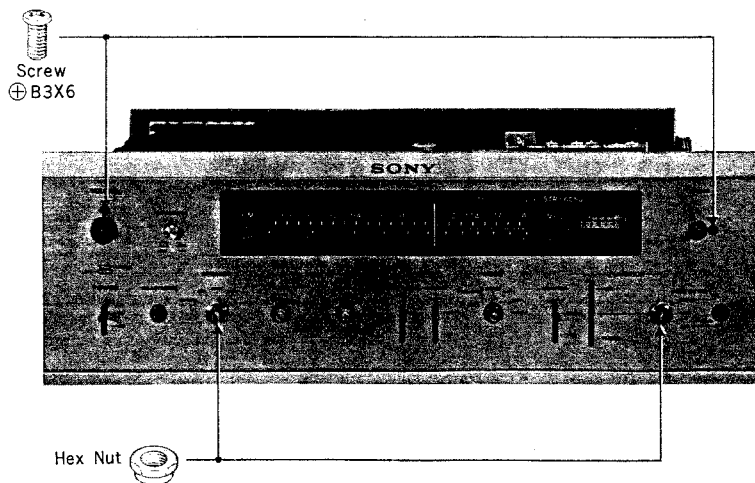

Fig. 2-2 Removal of Front Panel
- (c) Loosen off two screws (+B 3×6) one at the right side of the tuning shaft and the other just above the volume control shaft. See Fig. 2-2.